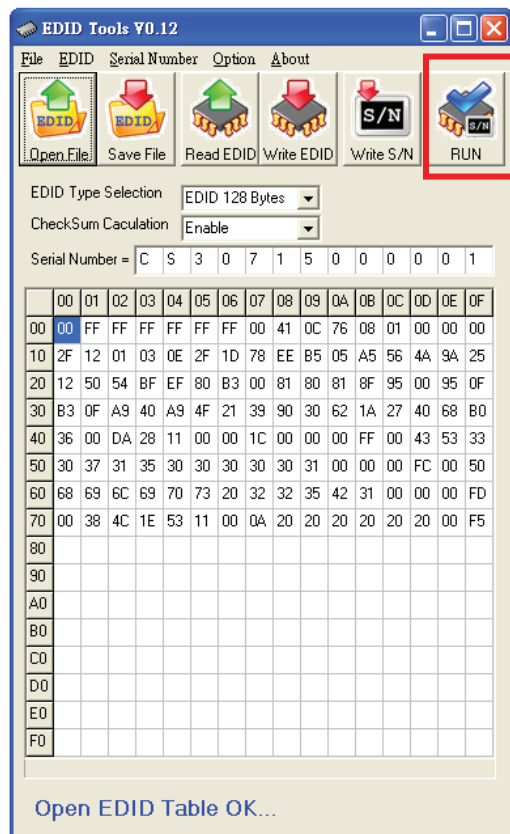

Fig.8
Step 5 : Press “RUN” to write EDID and serial number shown as Fig.8 .